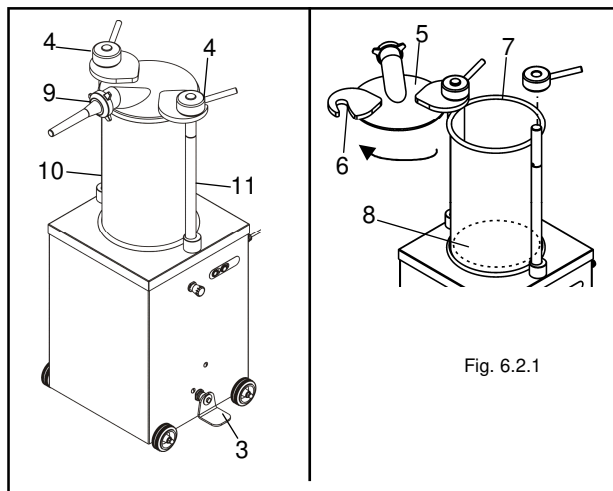

Fig. 6.2.1
To adequately clean the machine of mixture residue remove the cover by unfastening the locking ring nuts "4" fig. 6.2.1.
Extract the cylinder by lifting it perpendicularly to the two pins "10" and "11" fig. 6.2.1.
Reassemble everything and close it with the cover "5" with the lever "4" on the cylinder "7" (fig. 6.2.1).
If the plug "8" must be disassembled (fig. 6.2.1) act in the following way:
- After having connected the machine to the electrical line press the start push button "1" fig. 6.2.1 .
- Loosen the ring nuts "4" that block the cover by a few turns. Lift the cover and turn it sideways as in fig. 6.2.1.
- After having chosen and assembled the exit funnel by means of the ring nut "9", fig. 6.2.1 push the start push button "1".
- When the content of the cylinder is finished bring the plug into its initial position by lifting the pedal (fig. 6.2.1).